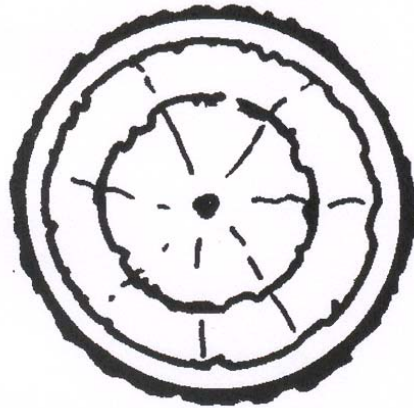

Fig. 9
24. Figure 9 represents the cross section through the trunk of a growing tree. Indicate with arrows the positions of the parts listed below.